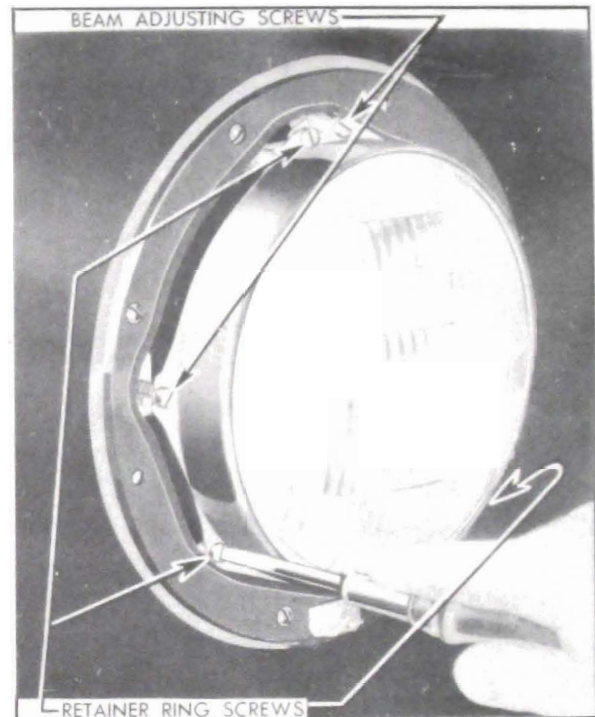

Figure 10-98—Removal of Sealed Beam Unit Retainer Ring
2. Remove the three retainer ring screws but do not disturb the two beam adjusting screws, then remove retainer ring. See figure 10-98.